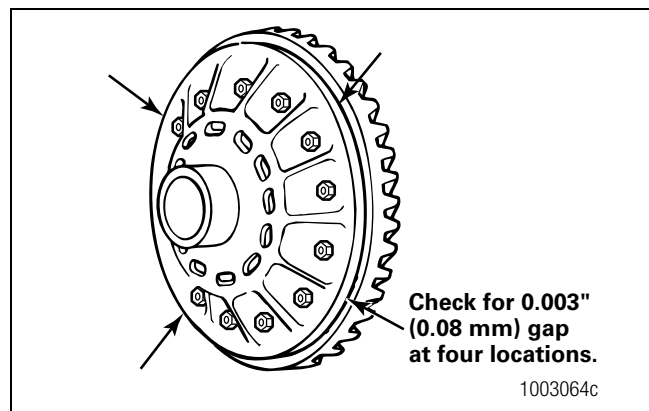

Figure 5.14
- A. After the bolts are installed, check for gaps between the back surface of the ring gear and the case flange. Use an 0.003-inch (0.08 mm) feeler gauge and check at four points around the assembly. Figure 5.14.